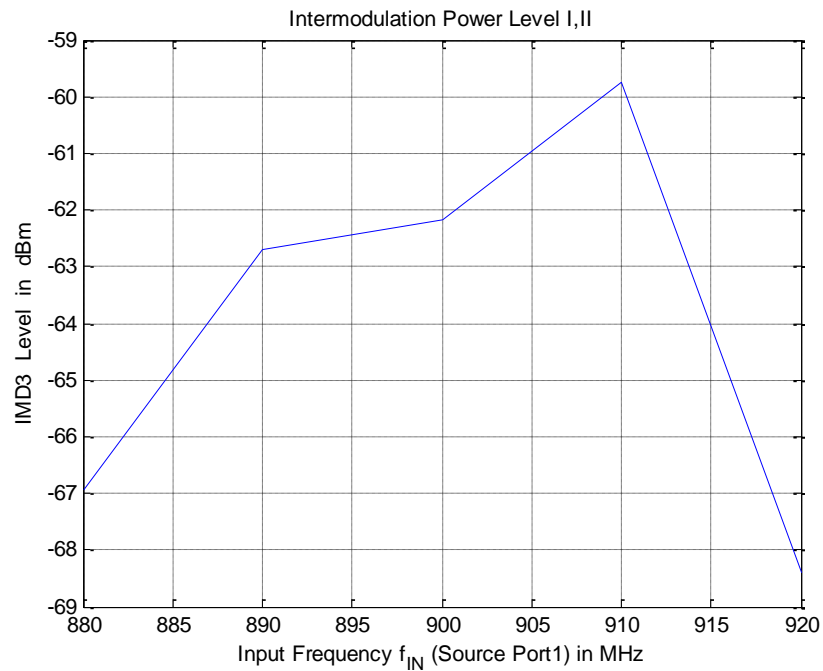

Figure 22: IMD power level of the intermodulation transmission measurement
On the GUI shown in Fig. 22 to 24, all necessary parameter settings for the intermodulation transmission measurement can be carried out:
- Sweep frequency (Frequency Sweep shown in Fig. 22):